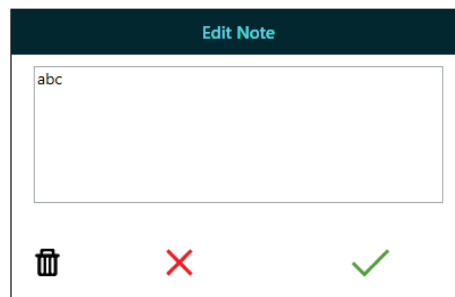

Figure 10. Edit Note
5. To edit or delete a note, click Edit Note on that line in the summary or click on the note in the graph. In the Edit Note window (*Figure 10*), edit text and save or click on the wastebasket icon to delete; if deleting, a Delete note? window will be displayed for your confirmation of the deletion.
6. **Note.** Click to view/edit/delete. See Figure 10.